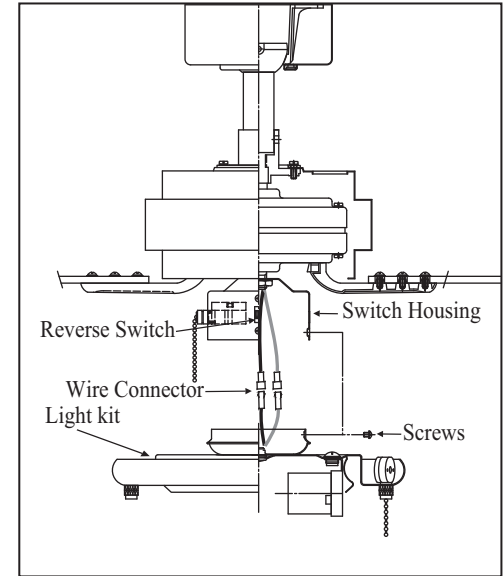

Figure 15
2. Carefully push all wires back into the switch housing. Attach the light kit fitter by aligning its keyhole slots with the three screw holes and the reverse switch on the side of the switch housing. Tighten the three screws securely to prevent the light kit from vibrating loose. (Fig. 15)